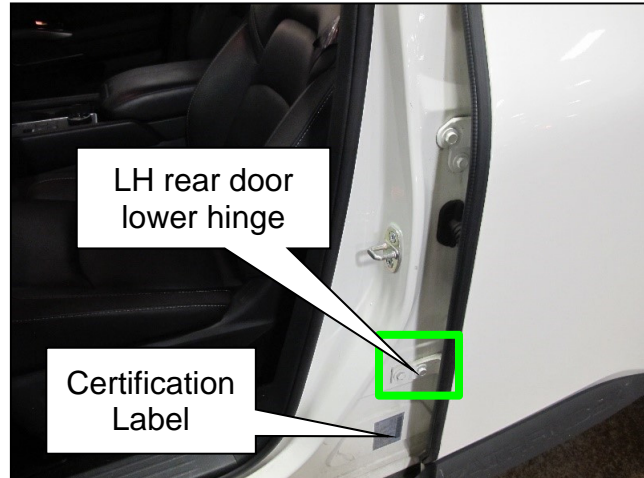

Figure 1
1. Open the driver (LH) side front door.
2. Locate the LH side rear door lower hinge (Figure 1).
**HINT:** The Certification Label is only located on the LH side and is not present on the passenger (RH) side.